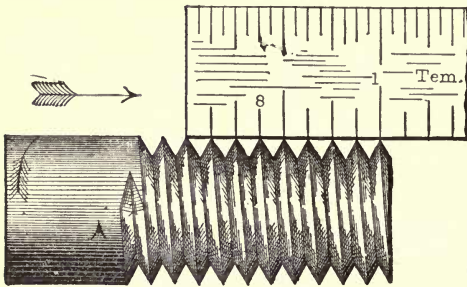

FIG. 115.—Measurement of Screw Threads.
**297. Measurement of Thread.**—Figure 115 shows how to measure the number of threads to one inch of a bolt. In this case the threads are an even 8 to the inch and we see that there are just 8 grooves from the end of the scale to the 1-in. mark. If a thread is an even number per inch it can be easily measured with the scale as described, but when we have fractional threads such as  $11\frac{1}{2}$  per inch it is best to measure the threads for 2 in., which would give us 23 whole grooves. Dividing 23 by 2 gives  $11\frac{1}{2}$  threads per inch.